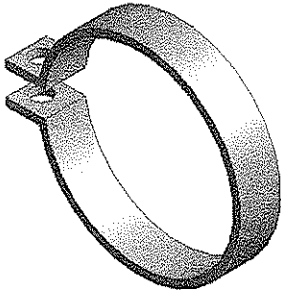

Figure 3-110 Model after creating the circular cutout
17. Choose the **Generate** tool from the **Features** toolbar; the cutout feature is created, refer to Figure 3-110.
1. In Figures 3-110 and 3-111, the display of planes has been turned off for better visualization. As per the need, you can turn on or off the display of planes by choosing the **Display Plane** button from the **Graphics** toolbar.